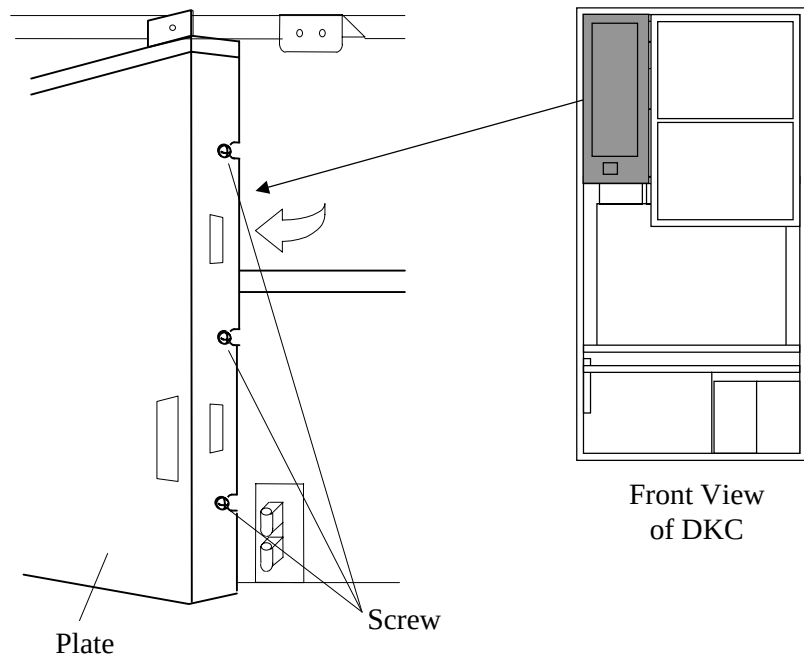

Fig. 3.14-3 Removal of Plate
- h. Attach the plate to the Movable rack and fasten the three screws. Refer to Fig. 3.14-3.